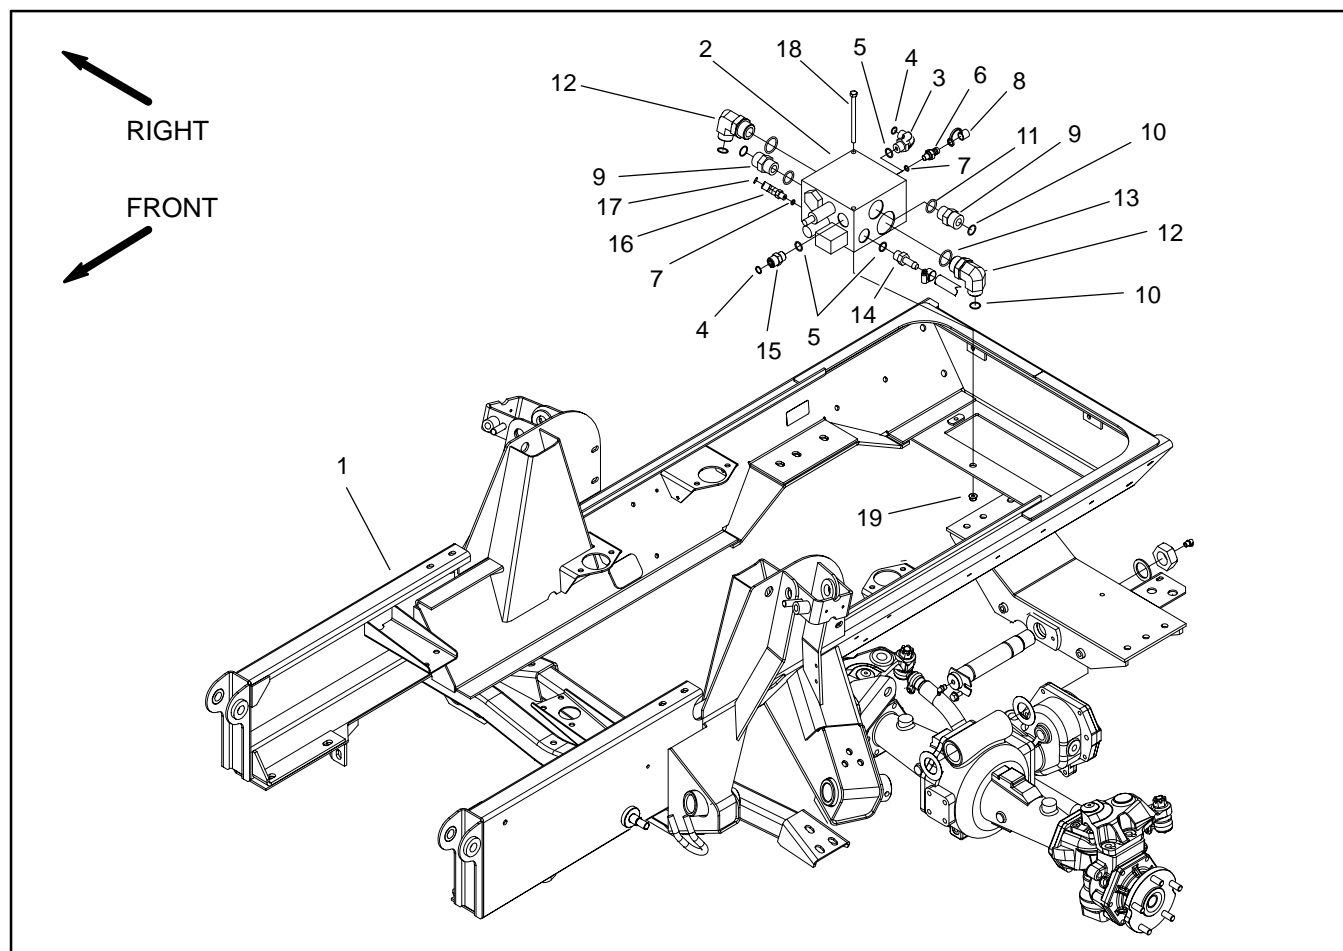

Figure 74
## Removal (Fig. 74)
5. Remove hydraulic manifold from the frame using Figure 74 as a guide.
## Installation (Fig. 74)
2. Install hydraulic manifold to the frame using Figure 74 as a guide.